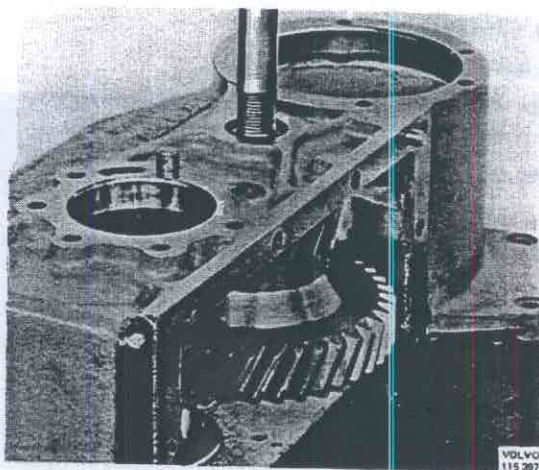

Fig. 43-151. Pressing out shaft, intermediate gear
9. Turn the auxiliary gearbox. Press out the intermediate gear shaft. Use a drift with the same diameter as that of the shaft, Fig. 43-151. Lift out the intermediate gear with bearing, spacer sleeve and shim.